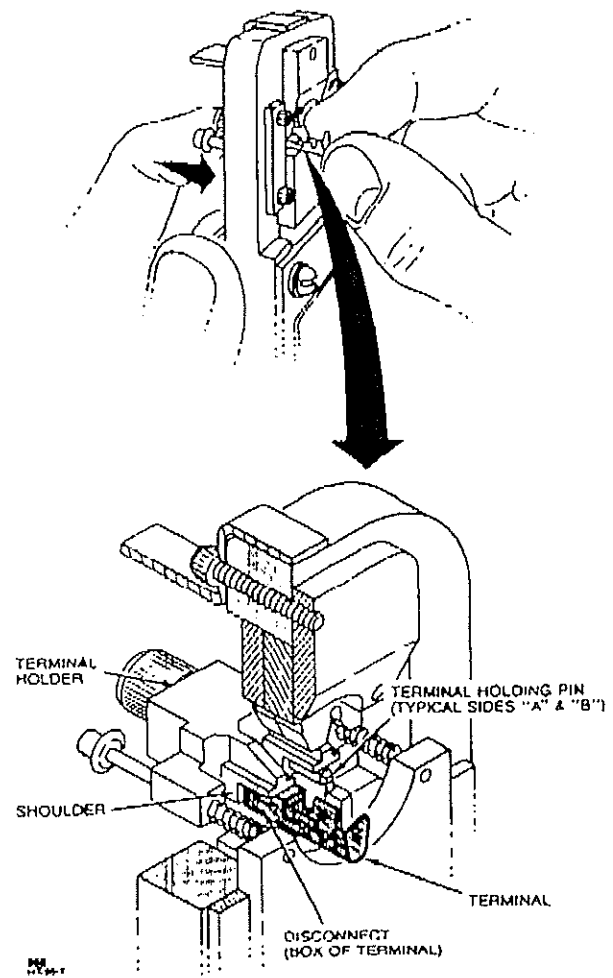

Figure 2. Positioning Terminal
1. Hold the hand tool so that the lever is on the left. With your index finger, push and hold the terminal holder in its forward position. (See figure 2.)